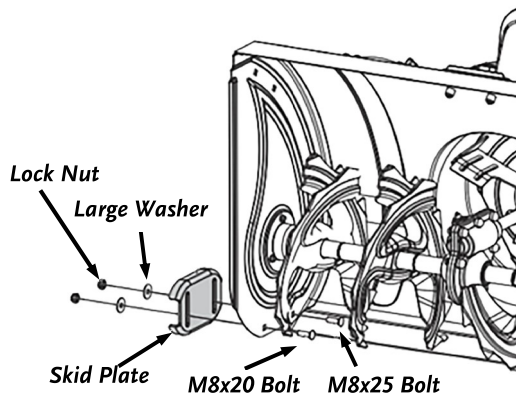

Figure 20
1. Remove Skid Plate Hardware from the Skid Plate (**Figure 20**).